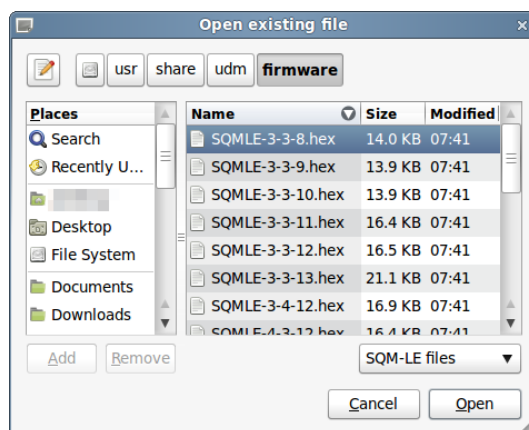

Figure 7.43: Firmware selection
1. Press the “Select Firmware” button to choose the firmware file to load in to the SQM as shown in Figure 7.43: